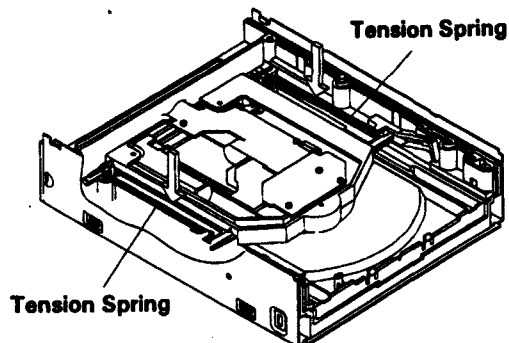

Fig. 4-5 (a) Tension Spring Removal
- Remove the end of Tension Springs on both of the guides. (Refer to Fig. 4-5 (a))